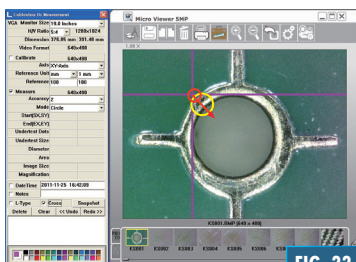

FIG. 33
6. Drag to the lower right of the object (Fig. 33).